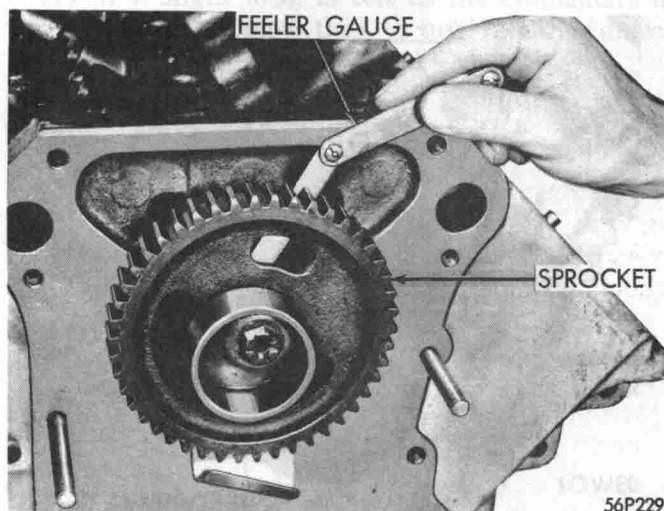

Fig. 6—Measuring Camshaft End Play
(2) Rotate crankshaft to line up key in shaft with keyway in sprocket.
(3) Rotate camshaft to line up keyways in shaft and sprocket.
(4) Slide sprockets and the chain on shafts as an assembly.
(5) Check camshaft for .002 to .006 inch end play. If not within these limits, install new spacer and/or thrust plate (Fig. 6). Install fuel pump eccentric.